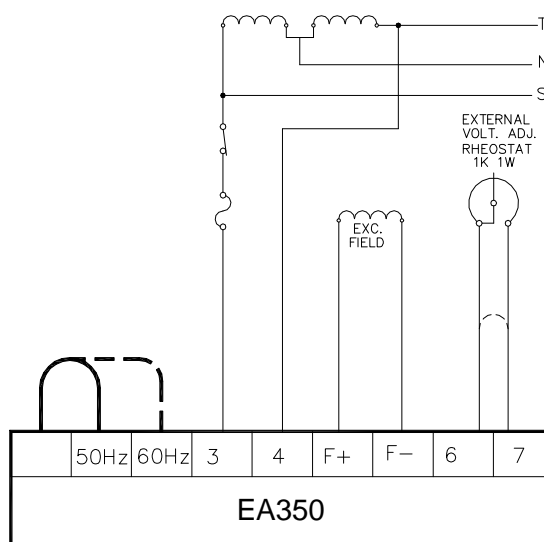

Figure 5 1Ø 220VAC Diagram
- See Figure 5~6 for typical connection diagram.
See Figure 5~6.
When using a remote voltage adjust rheostat, remove the jumper wire across terminals 6 and 7 and install a 2000 ohm 1/2 watt (minimum) rheostat. This will give  $\pm 10\%$  voltage variation from the nominal. (For  $\pm 5\%$  voltage variation use a 1000 ohm 1/2 watt rheostat). See Figure 5~6.
- Rheostat Jumper connected across terminals 6 and 7. This enables adjustment of the generator output voltage rheostat. A 1000 ohm, half-watt rheostat will provide adequate voltage adjustment range for most applications. Figure 5~6 shows the proper remote rheostat connections.